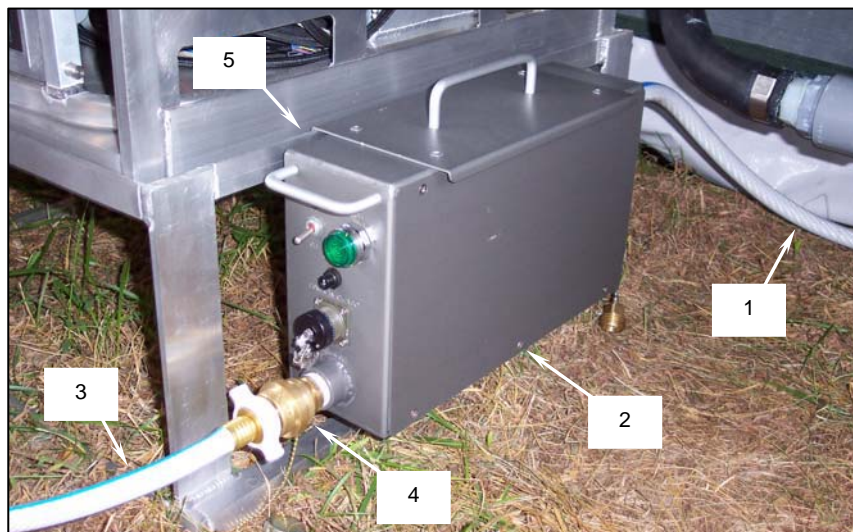

Figure 2. Removing the Sink Fill Pump Assembly.
- b. Disconnect the 50-ft water supply hose (Figure 2, Item 1) from the potable water supply.
- c. Disconnect the 50-ft water supply hose (Figure 2, Item 1) from the back of the sink fill pump assembly (Figure 2, Item 2) and drain the hose toward the source end.
- d. Disconnect the 15-ft sink fill hose (Figure 2, Item 3) from the vacuum breaker (Figure 2, Item 4) at the front of the fill pump assembly and secure the cap to the vacuum breaker.
- e. Lift the sink fill pump assembly (Figure 2, Item 2) off the sink assembly base rack (Figure 2, Item 5).